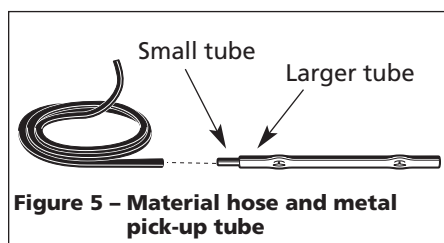

Figure 5 - Material hose and metal pick-up tube
8. Make sure the material hose is securely attached to the smaller tube (and does not touch the larger tube) of the metal pick up (see Figure 5).